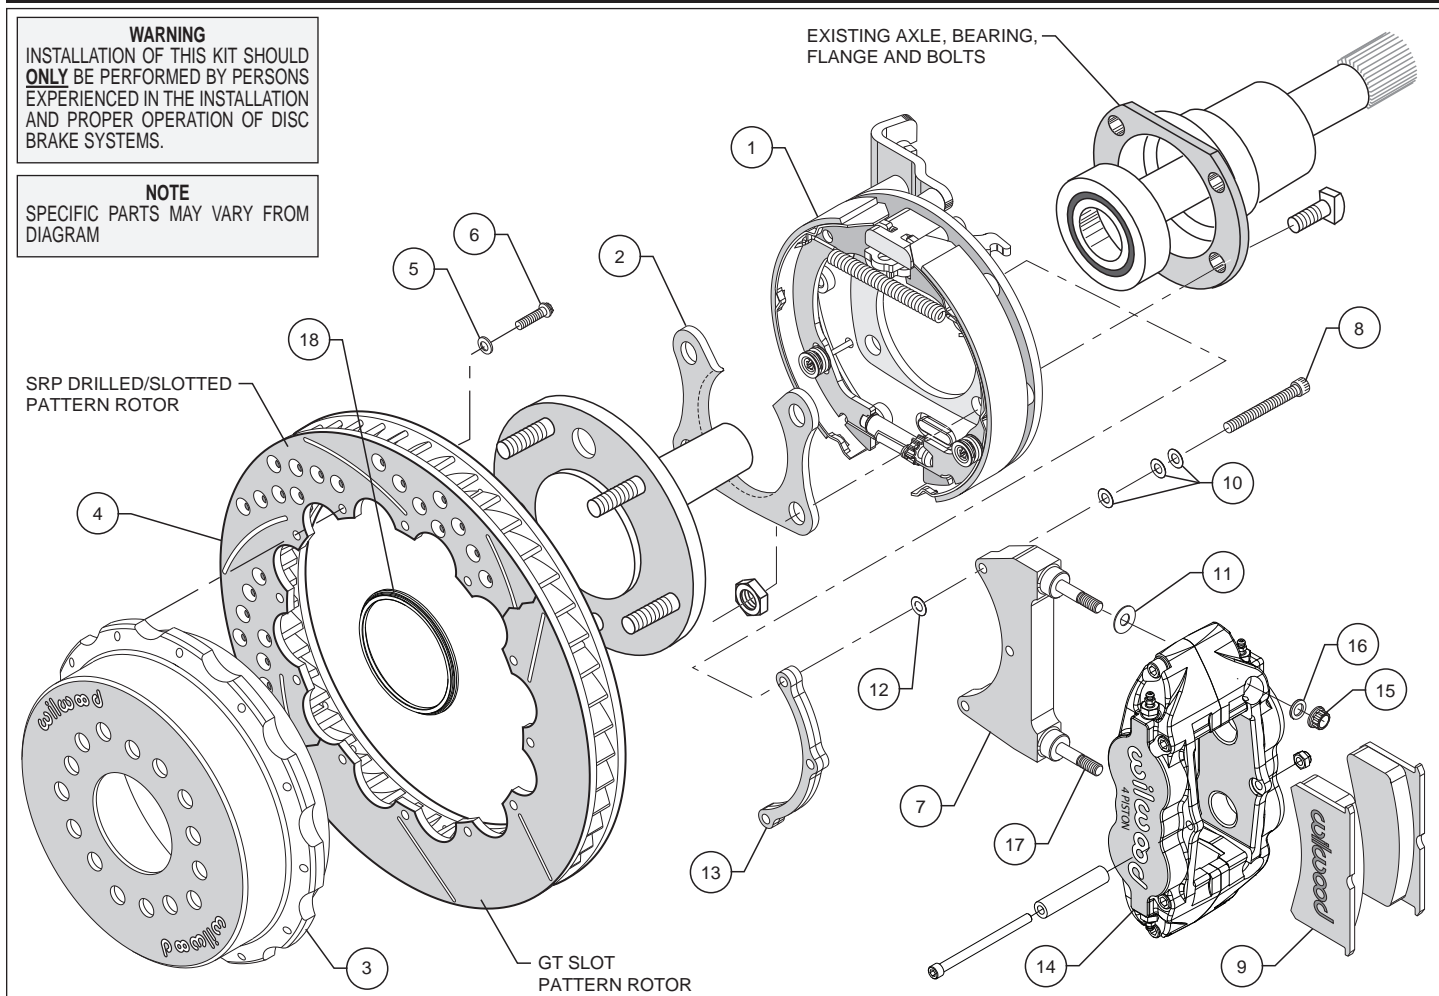

Figure 1. Typical Installation Configuration
- Slide the bracket kit assembly (1) onto the housing flange and then insert the axle assembly through the center hole of the bracket kit assembly (1). Align the bearing retainer (2), as shown in Figures 1 and 4, and secure using the stock Original Equipment Manufacturer (OEM) bolts and nuts. Stock OEM hex nuts that retain the bracket kit assembly (1) and retainer (2) should be on the wheel side of the bracket. Apply red *Loctite*® 271 to the stock OEM bolt threads and torque to OEM specifications. Make sure the bracket kit assembly (1) brake pads are FACING OUTWARD TOWARDS THE WHEEL.
- **NOTE:** Please reference the caution statement at the beginning of the assembly instructions. The caliper mounting bracket assembly (7) should be installed first with clean, dry threads on the mounting bolts (8). Install the bracket from the rear side of the bracket kit assembly (1) by sliding bolt (8) through three flat washers (10), bracket (7), shim washer (12) and finally through the spacer (13), see Figure 1. **NOTE:** End of bolt should not exceed inside face of insert. The bracket must tighten squarely against the back side of the bracket kit assembly (1). Inspect for interference from casting irregularities, machining ridges, burrs, etc. Use one thin shim (12) between the bracket (7) and spacer (13) during initial trial fitting.
- Install one shim (11) over each pre-installed stud (17) on the radial mount bracket (7). Slide the caliper (14) in place over the studs and rotor, then install the washer (16) and lock nut (15) to hold the caliper in place. Snug the lock nuts (15) and check that the rotor (4) is centered in the caliper (14). Add or subtract .015" shims (12) as necessary between the caliper mounting bracket (7) and the spacer (13) to center the caliper (14).
- Remove the caliper center bridge pad retainer bolt, nut, and tube from the caliper. Slide the brake pads (9) into place. They should install easily without interference. Check that the outside radius of the brake pad is aligned with the outside diameter radius of the rotor face. Add or subtract shims (11) between the caliper (14) and mount bracket (7) to gain the proper alignment. Reinstall the center bridge pad retainer tube, bolt, and locknut. The locknut should be snug without play in the bolt or tube. Be cautious not to over tighten.
- Adjust the parking brake shoes outward (using a drum shoe adjustment tool available at your local auto parts store) while spinning the hat (3) until a slight drag is felt against the hat/drum. Remove the lug nuts that were holding the hat/rotor in place. Install the wheel and lug nuts. Check to see that the wheel rotates freely without interference.
- Once all clearances have been checked, remove the wheel, caliper, hat/rotor from the bracket kit assembly (1). Secure the caliper mounting bracket (7) to the bracket kit assembly (1) using red *Loctite*[®] 271. Torque bolts (8) to 180 in-lb. Reinstall the hat/rotor assembly and again use lug nuts to hold it in place. Lubricate caliper mounting studs and nuts with lightweight oil, reinstall the caliper, torque the caliper nuts (15) to 30 ft-lb.
- **NOTE:** Clevis and cable kits which attach to the parking brake assembly are not included in the Wilwood parking brake kit. Wilwood offers a generic style parking brake cable kit, P/N 330-9371 for this application which can be ordered separately from your local Wilwood dealer or by calling Wilwood customer service at (805) 388-1188.